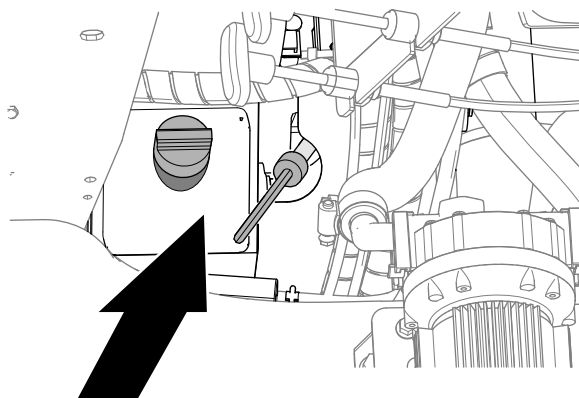

Figure 74
1. Remove the dipstick from the filler neck of the engine and wipe the dipstick and filler neck with a clean rag (Figure 74).